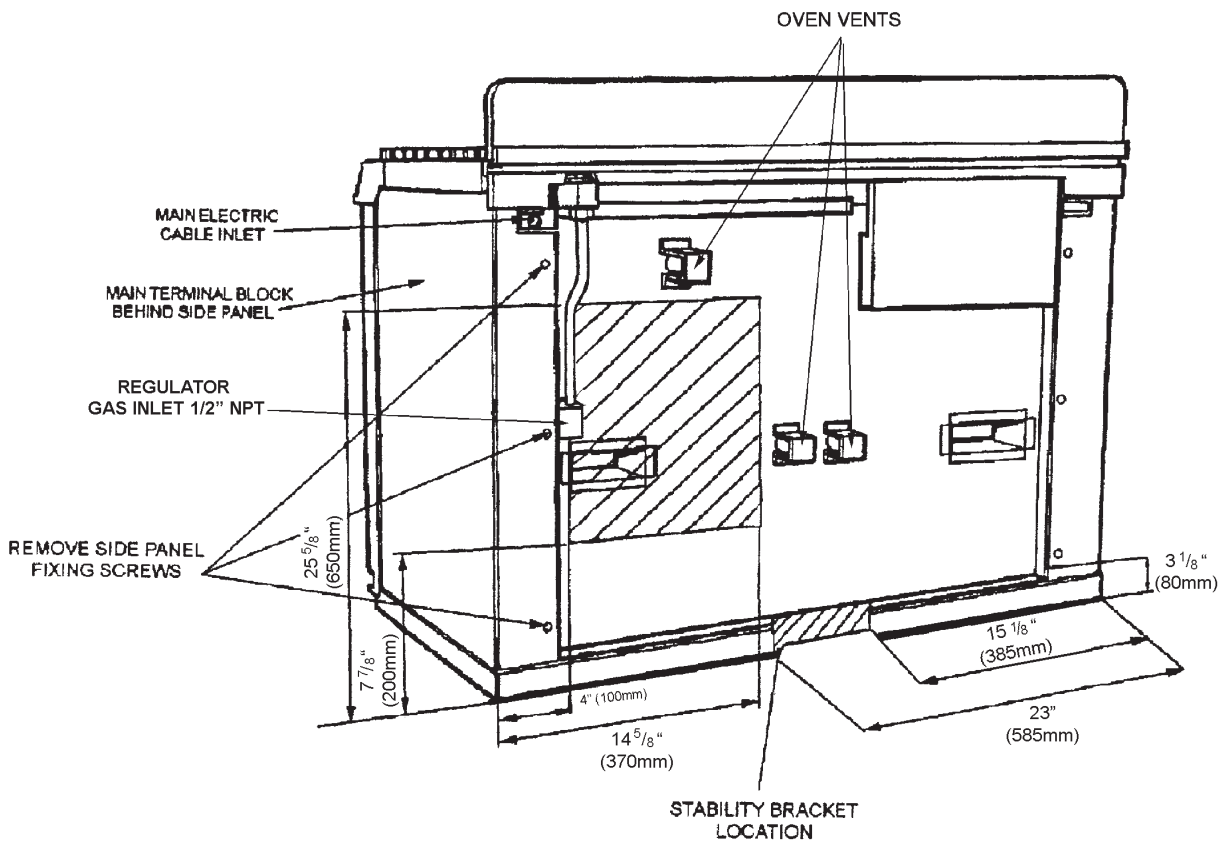

Fig. 3
Remove 6 screws securing side panel to gain access to mains terminal. See Fig. 3 for location of cover.
The gas flexiline connector must be fitted in the shaded area dimensioned in Fig. 3. Take into account that it must be possible to pull the cooker forward sufficiently for servicing. Ensure flexiline hose is not trapped between cooker back panel and rear wall. Ensure hose is routed within the shaded area and away from shielded oven vents.
A stability bracket shall be secured firmly to the fabric of the building. For positioning of bracket (See Fig. 3). A safety chain should also be anchored firmly to the wall and cooker to prevent strain on the gas connection, when the cooker is withdrawn for servicing. When fitting a stability bracket and chain refer to Fig. 3, 3A and 3B.
- Remove left hand and centre shroud from the control panel to gain access to the fixing screws. Remove two screws from control panel (one from left hand hole and one from centre hole). (See Fig. 3).